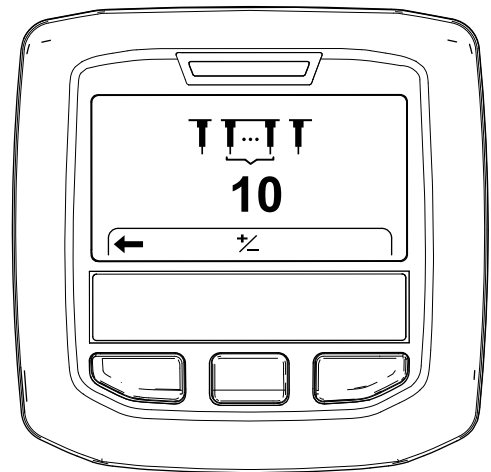

Figure 50
6. Press the right InfoCenter button to display the Setting the Tine Quantity screen (Figure 50).